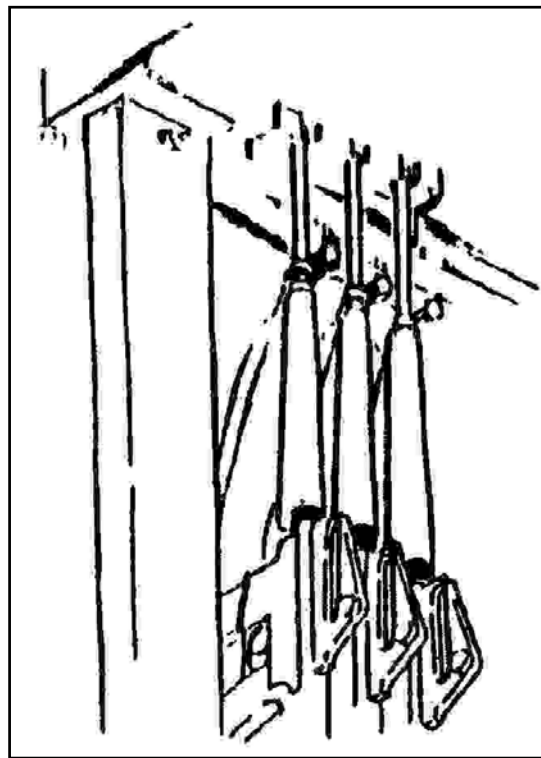

Figure 3-7. Rifle Rack
- j. Have them put their weapons in the rifle rack (see Figure 3-7, page 3-8).